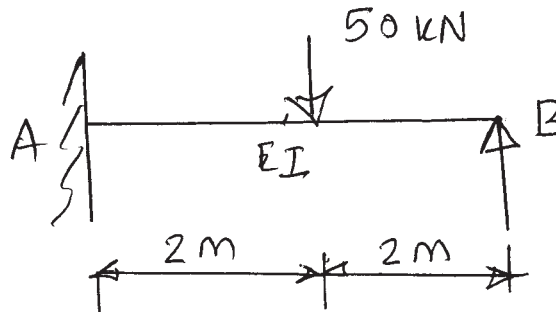

Fig. No. 6
- c) Calculate support moment and draw BMD and SFD for a beam as shown in Figure No. 6 by using three moment theorem.